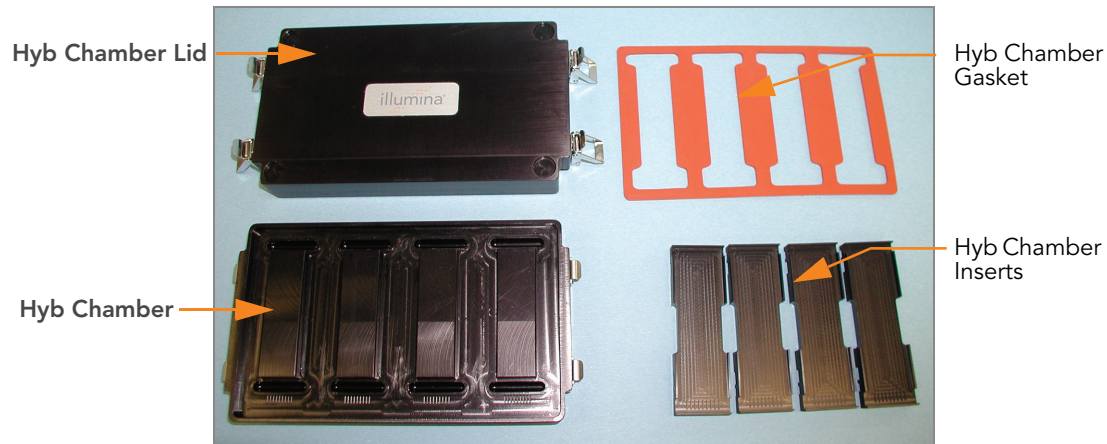

Figure 34 BeadChip Hyb Chamber Components
1. Place the following items on the bench top per 96 samples (Figure 34):
- BeadChip Hyb Chamber (1)
- Hyb Chamber Gasket (1)
- Hyb Chamber inserts (4)
- BeadChip Hyb Chambers (2)
- Hyb Chamber Gaskets (2)
- Hyb Chamber inserts (8)